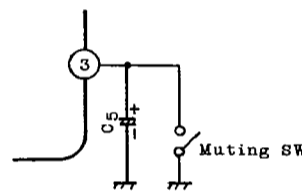

Fig.3
Audio muting can be accomplished by connecting pin ③ (ripple filter) to GND as shown in Fig.3. Then, the bias circuits are cut off.